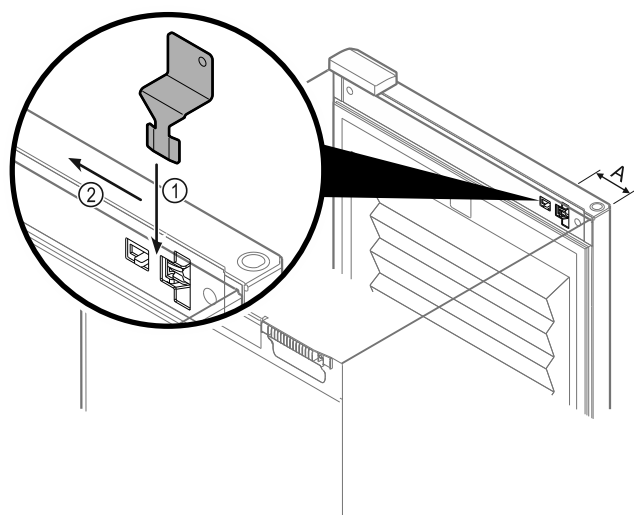

Fig. 148
- Insert the emergency release key in the specified position Fig. 148 (A)  $\approx$  100 mm.
- Insert the emergency release key Fig. 148 (1) between the door and the body of the appliance from above to the end stop.
- Pull the emergency release key towards the hinge. Fig. 148 (2)